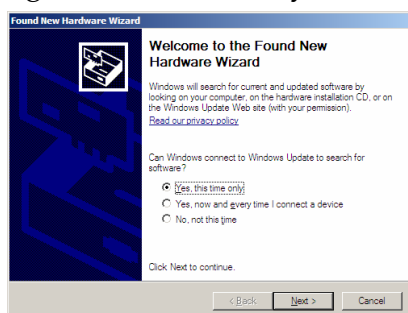

Figure 1
2. Windows will find a USB device automatically and enter the hardware wizard (Figure 1). Choose "yes. This time only".